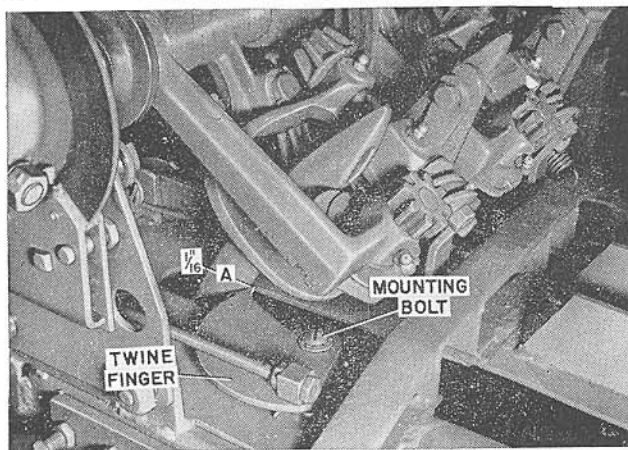

FIGURE 23
3. The twine fingers should clear the needles by not more than 1/16". (point A, Fig. 23). Secure proper twine finger clearance by loosening the twine finger mounting bolts and moving them forward or backward in the slots in which they are installed.